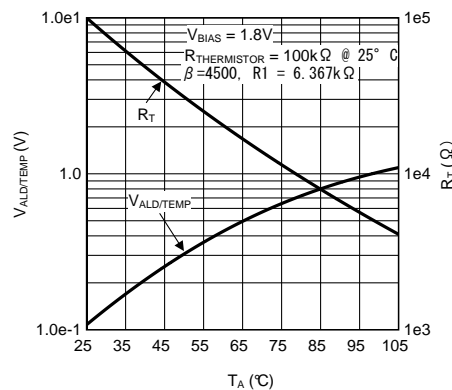

Figure 50. Thermistor Resistive Divider Response vs Temperature
- $V_{\text{BIAS}}$  is shown in Figure 50
Setting the ALD/TEMP Sense High Register to N = 50 or hex 0x32 places the upper trip point to approximately 800 mV. Voltages higher than 800 mV prevent the flash LED from turning on. Based on Figure 50, the Sense Low Register can be set to a lower code to give a second LED current threshold (70% flash). Voltages lower than the value stored in the Sense Low Register allow a full current flash.